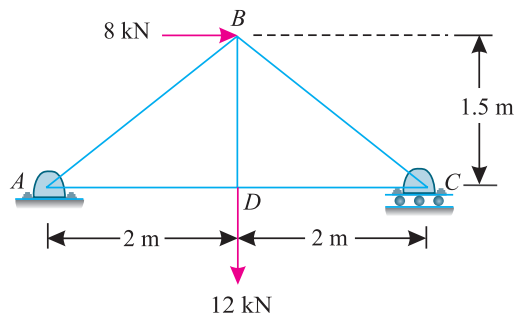

Fig. 12.27.
**Example 12.12.** Fig. 12.27 shows a framed structure of 4 m span and 1.5 m height subjected to two point loads at B and D.